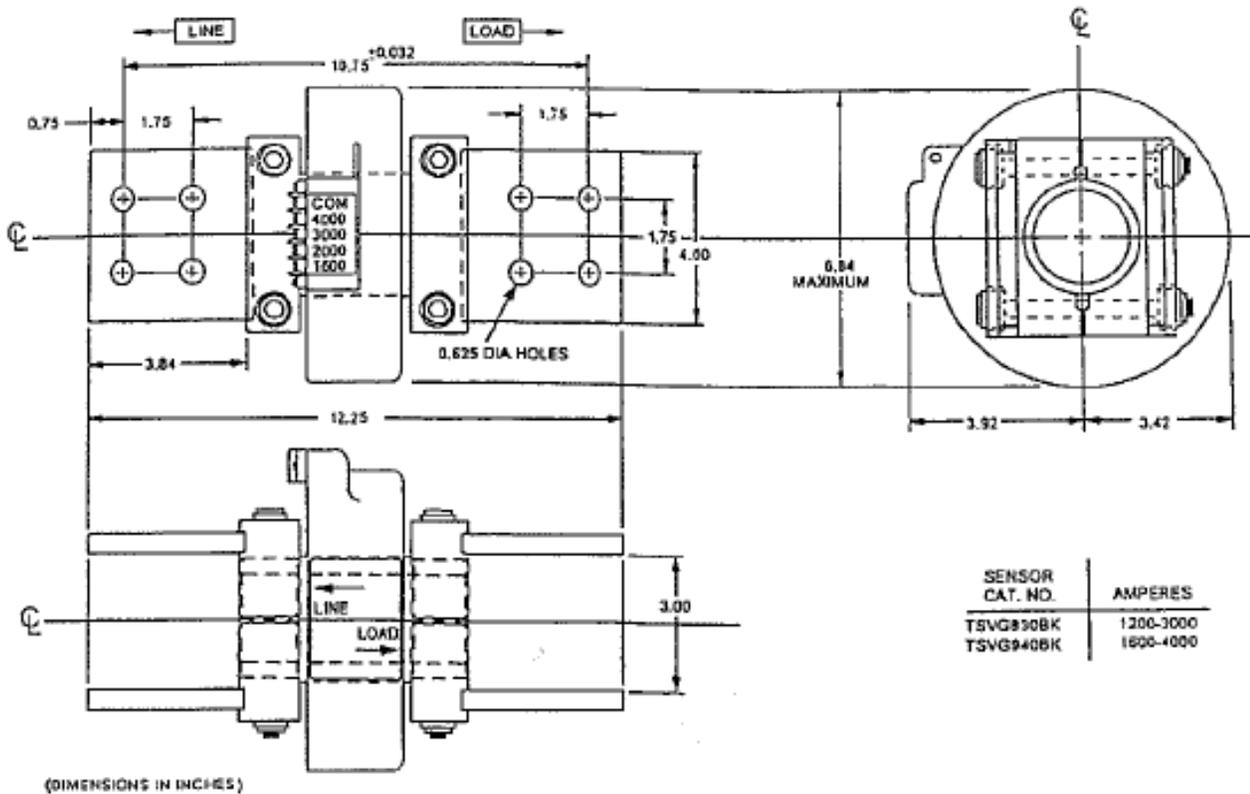

Figure 27. Neutral sensor outline for 3000A through 4000A breakers
1. Mount the neutral sensor on the outgoing neutral lead, normally in the bus or cable compartment in the equipment. Figure 27 shows the sensor outlines for the 3000 A through 4000 A frame sizes.
4. On ground fault breakers serving four-wire loads, check that the neutral sensor is properly connected, as indicated in Figure 27. In particular, check the following: